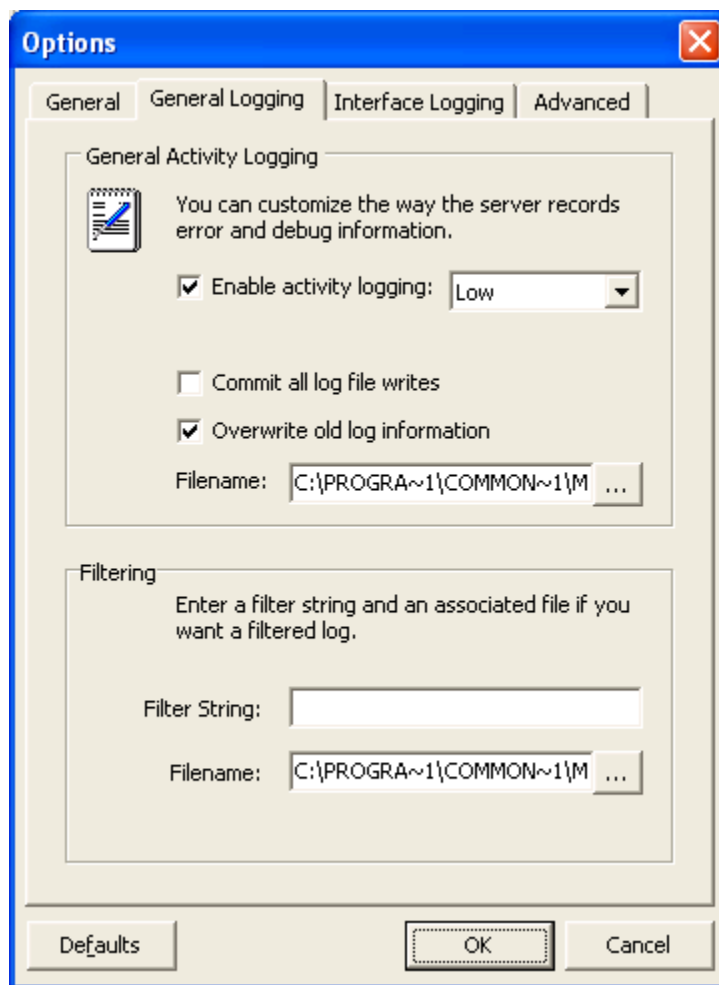

Figure 49 - General Logging Options Tab
3. From the **Options** window, select the **General Logging** tab (Figure 49).